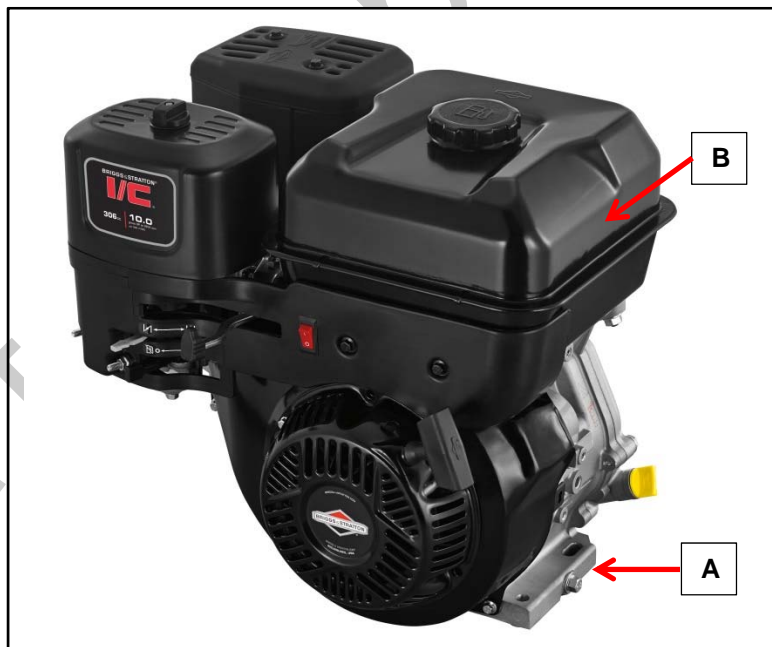

Figure 1
The Model-Type-Trim and Code numbers are stamped or etched into the engine base (A, Figure 1) below the starter motor area. The bar code serial number label is located on the side of the fuel tank (B) or on the top of the blower housing on generator engines (not shown).